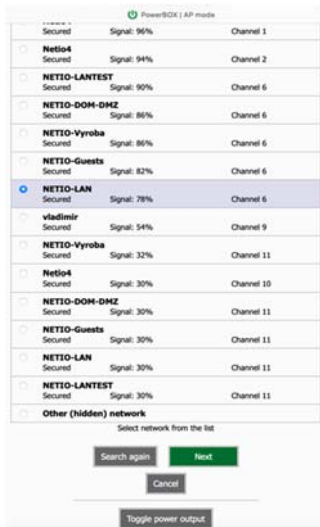

Figure 3
- Select your network in the list of detected networks and press "Next" (Figure 3)